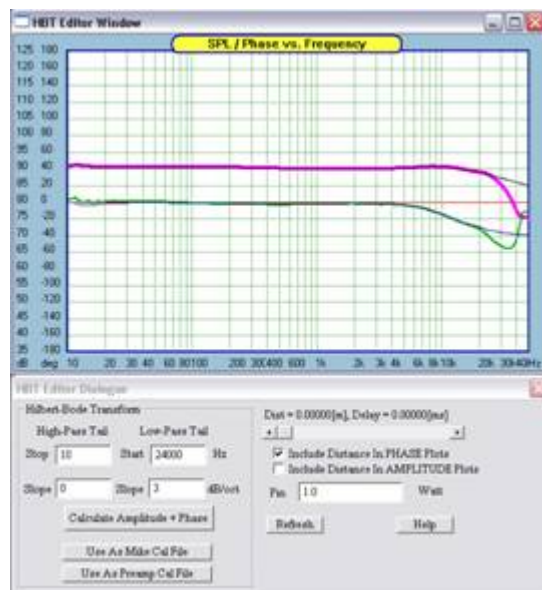

Figure 22. HBT-generated microphone amplitude and phase response.
Phase data, if supplied with the microphone, may be suspect, depending on how the phase was determined. In the example the phase data supplied with the microphone was calculated from the amplitude using a discrete Hilbert Bode Transformation (HBT) to past 40k Hz. Due to the nature of the discrete HBT, as observed in Figure 22, the phase turns up at about 35k Hz. This is not reasonable. If the microphone response continues to drop off, the phase should continue to increase. Thus the phase must be recomputed using the HBT in the Ultimate Equalizer. This is done by *tailing* the amplitude data using the *HBT Editor Dialog* as follows:
- Click the *Calculate Amplitude + Phase* button and observe the characteristics of the HBT result. For the example this is shown in Figure 22, where the calculated amplitude is the thin black line through the pink data line up to 24k Hz and the calculated phase is the thin blue line through the green line. Beyond 24k Hz the HBT result diverges from the imported data. Depending on the values set for the *Stop* frequencies and *Slopes* the phase may diverge from the imported data below 20 or 24k Hz. If this is the case adjust the slope as required to obtain the best phase match below and up to 24k Hz. Zero and negative values can be input for Slope is necessary.